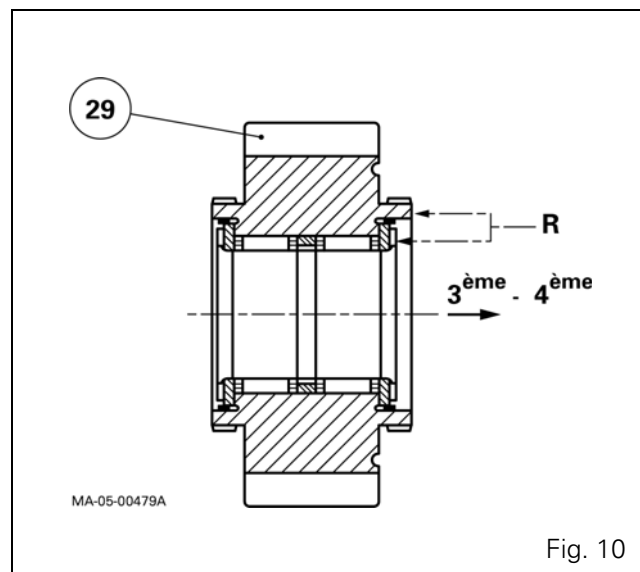

Fig. 10
- the 3rd driving gear (29) fitted with the needle roller bearings (28) (30) (recess "R" facing towards the 3rd-4th synchroniser (Fig. 10));
- the synchroniser (31).